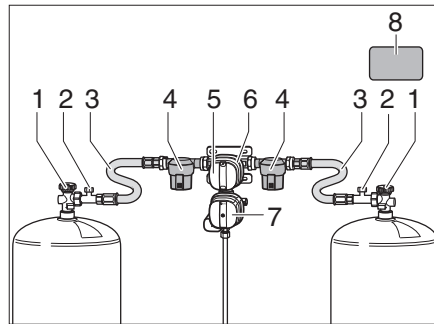
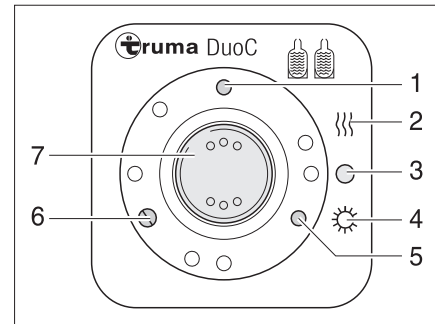
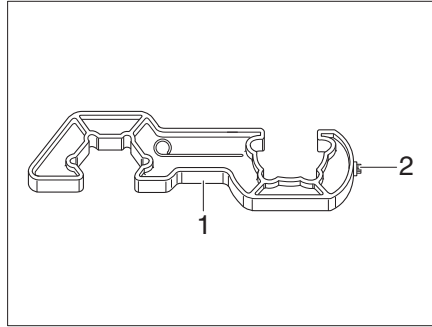
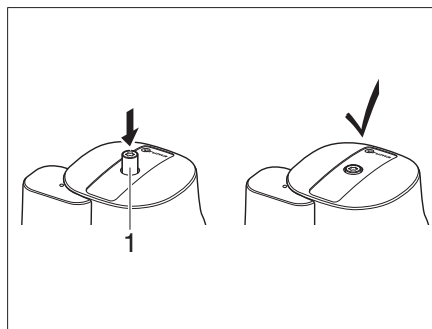

Fig. 85 DuoControl switching facility
Fig. 86 Operating unit
Fig. 88 Screw aid
Fig. 89 Crash sensor
The DuoControl switching facility consists of a switching valve (Fig. 85,6) and the operating unit (Fig. 86). The switching valve is mounted between the high-pressure hoses (Fig. 85, 3). The knob (Fig. 85,5) on the switching valve is used to select which of the gas bottles is to be used as a primary bottle and which is to be used as a reserve bottle.
The switching valve (Fig. 85,6) is equipped with the regulator defroster "EisEx". This prevents damage to the gas system during the winter months.
A gas filter (Fig. 85,4) that protects the gas system against oil and other contamination is located on each side before the switching valve.
Only the electrical functions can be switched at the operating unit (Fig. 86). The regulator taps (Fig. 85,1) on the gas bottles must be opened manually.
The switching valve provides a constant gas pressure, regardless of which gas bottle is being drawn upon. The two indicator lamps on the operating unit show the filling level of the primary bottle. The primary bottle is full when the green indicator lamp (Fig. 86,6) lights up. The primary bottle is empty when the red indicator lamp (Fig. 86,5) lights up. The gas is then supplied via the reserve bottle.
- Open the regulator taps (Fig. 85, 1) on the gas bottles.
- Use the knob (Fig. 85,5) on the switching valve (Fig. 85,6) to select the gas bottle which is to be the primary source of gas (primary bottle). Always turn the knob as far as it will go.
- Set the rocker switch (Fig. 86,7) to "O" (Fig. 86,3). The yellow indicator lamp (Fig. 86,1) goes out.
- Close the regulator tap (Fig. 85,1) on the gas bottles.
The indicator lamps on the operating unit (Fig. 86,5 and 6) indicate in the vehicle interior whether the primary bottle is ready for operation.
If the green indicator lamp (Fig. 86,6) goes out during operation and the red indicator lamp (Fig. 86,5) lights up, the gas bottle selected as the primary bottle is empty and has to be replaced. The reserve bottle continues supplying the gas appliances with gas.
- ▷ Use the enclosed screw aid (Fig. 88,1) to connect and disconnect the high-pressure hoses. It ensures the required tightening torque and prevents damage to the screw connection through using unsuitable tools.
- Close the regulator tap (Fig. 85, 1) on the empty gas bottle.
- Unscrew the high-pressure hose (Fig. 85,3) from the gas bottle using the screw aid (Fig. 88).
- Connect the full gas bottle to the high-pressure hose (Fig. 85,3).
- Open the regulator tap (Fig. 85, 1) on the gas bottle.
- Set the knob (Fig. 85, 5) on the switching valve (Fig. 85, 6) with half a turn, so that the newly replaced gas bottle will serve as a reserve bottle.
- Press the button (Fig. 85, 2) for the hose break guard at the high-pressure hose to activate it.
- If necessary, press the reset button (Fig. 89, 1) at the crash sensor.
- ▶ Observe the safety label (Fig. 85, 8) in the gas bottle compartment.
- Use the Torx T20 (Fig. 88,2) at the screw aid to press in the safety release knob (Fig. 89,1), turn it slightly clockwise and hold it for 5 seconds. The crash sensor is ready to operate when the safety release knob (Fig. 89,1) remains in the lowered position.
- After replacing the gas bottle press the green button (Fig. 85,2) at the high-pressure hose (Fig. 85,3) vigorously.